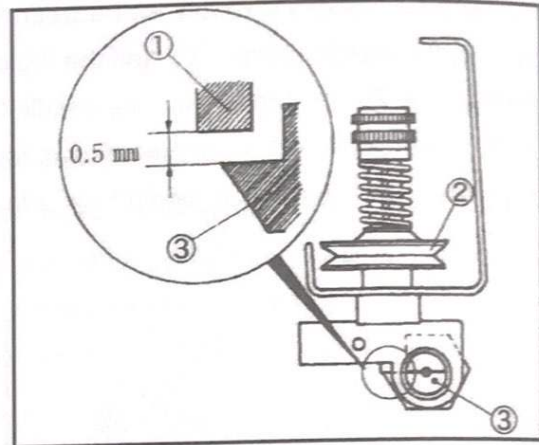

Fig.9
當踩下踏板時，六個鬆線器①會向上推，之後上夾線片②開始離開下夾線片。(Fig.9)
As standard, make the clearance between the tension release pins ① and the tension release shaft ③ to 0.5mm when six tension release pins ① are pushed up slightly and the upper thread tension disc without pressing the presser foot pedal. (Fig.9)
(2) 翻轉鬆線器座③用螺絲起子。(Fig.9)
(2) Turn the tension release shaft ③ with a screwdriver.(Fig. 9)